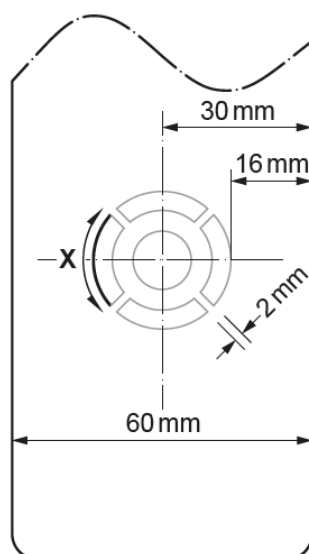

Fig. 2.2
Fig. 2.2 shows a CAD diagram of the central buttons in the lower part of the remote control. Arc X is part of the outer circumference of a circular array of four identical buttons.
- (e) Using the diagram in **Fig. 2.2**, calculate the length of arc X in mm to 2 decimal places. Show your working.